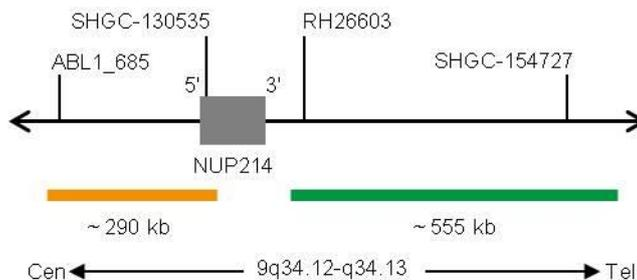

Fig. 1: SPEC NUP214 Probe map (not to scale)
- ZyGreen (excitation 503 nm/emission 528 nm) labeled polynucleotides (~10.0 ng/ μ l), which target sequences mapping in 9q34.13* (chr9:134,153,663-134,706,700) distal to the NUP214 breakpoint region (see Fig. 1).
- ZyOrange (excitation 547 nm/emission 572 nm) labeled polynucleotides (~4.5 ng/ μ l), which target sequences mapping in 9q34.12-q34.13* (chr9:133,739,333-134,028,546) proximal to the NUP214 breakpoint region (see Fig. 1).